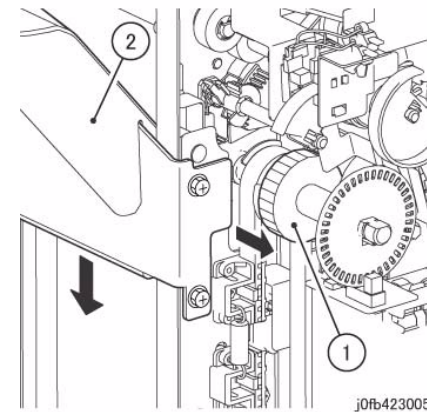

Figure 1 Lower the Tray
4. Move the Carriage Tray to the lowest position. (Figure 1)